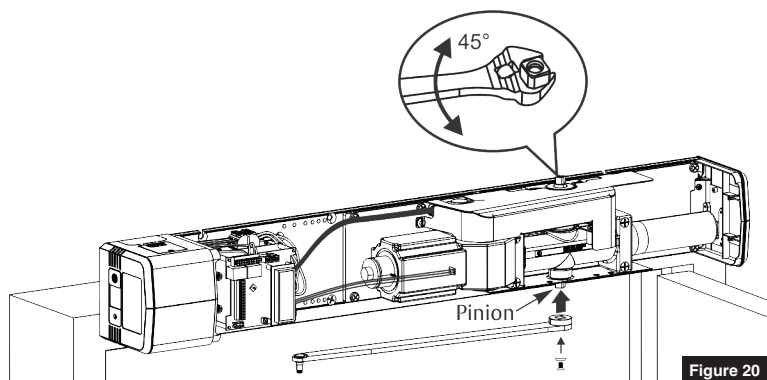

Figure 20
2. Using an adjustable wrench, rotate top pinion 45 degrees toward door hinge. You will feel resistance from spring. (Figure 20)
3. While holding pinion at 45 degrees, slide arm on bottom pinion parallel to frame as shown. (Figure 20)
4. Secure arm to pinion with 1/4-20 x 1/2" screw and countersunk patch washer. (Figure 20)